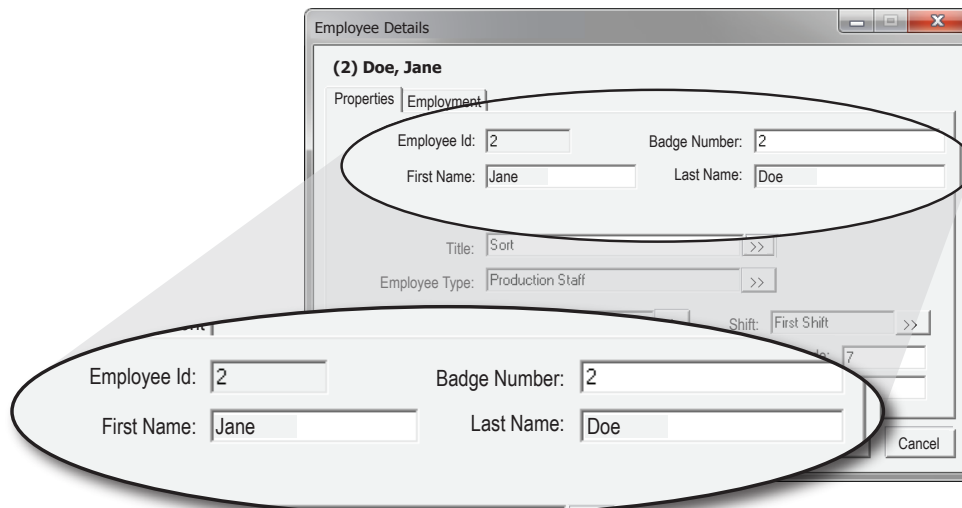

Figure 28. Employee Details Dialog: Employee Names and IDs.
3. Enter a unique numeric **Employee ID**. The system automatically copies the employee ID to the **Badge Number** Field (see Figure 28).